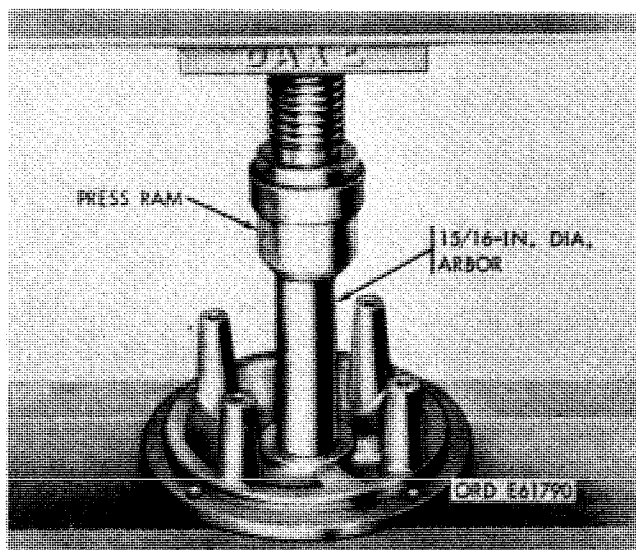

Figure 3-31. Removing or installing bearing in commutator end housing.
(1) Smooth minor damage such as nicks, burs, etc., on mating surface of housing with a fine mill file.
(2) If bushing-type bearing did not meet allowable wear limits, remove old bearing as shown in figure 3-31. Install a new bearing in the same manner. It should be pressed in so that it is flush with housing bore. Drill bushing oil hole using a  $21/64$ -inch diameter drill and oil wick bore as a pilot. Ream bearing to a diameter of  $0.730 \pm 0.001$ -inch.